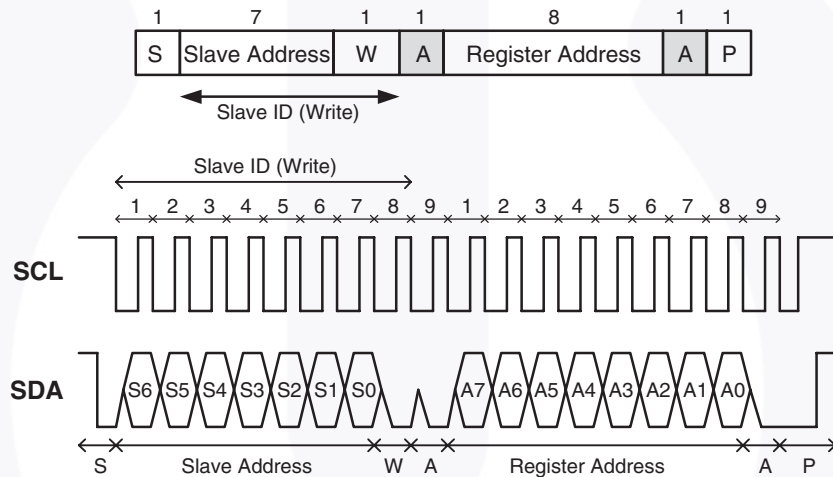
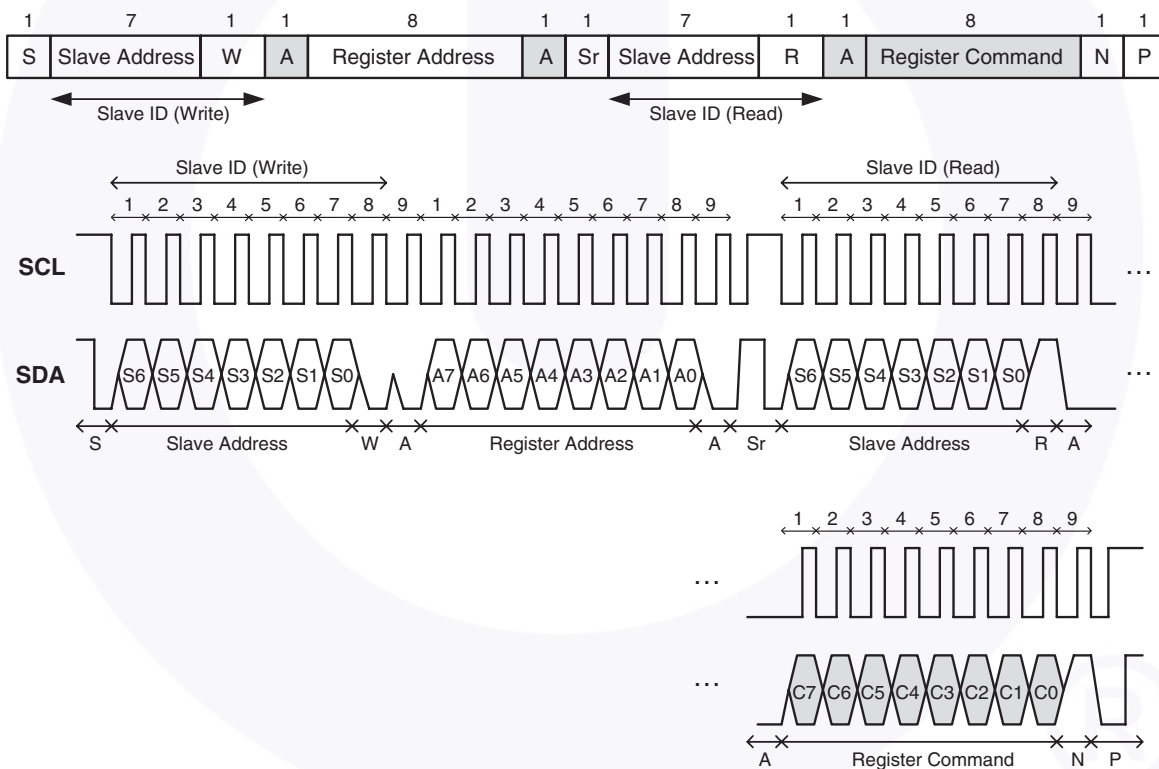

Figure 4. I2C Write Protocol (Type 1)
Figure 7. I2C Read (Combined Format) Protocol
- Figure 4 through Figure 7 outline the sequences for data read and write.